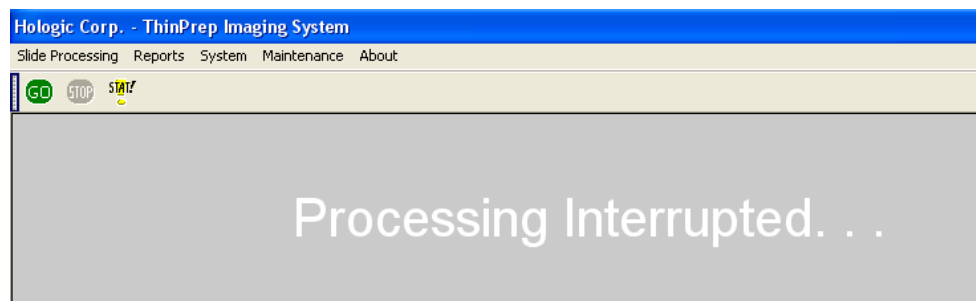

Figure 3-24 Slide Interruption Complete
6. The Interruption process is complete when the GO button is available again. The doors will unlock. (Refer to Figure 3-24.)